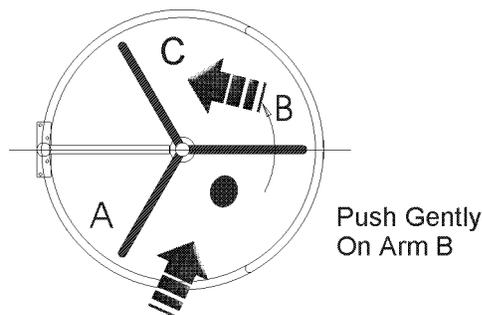

Figure 2
3. Immediately step into turnstile as shown in figure 2.
WARNING: After the user walks through the turnstile, there will be a trailing arm section (A – Fig. 2). Taking long steps could cause the trailing arms to strike the heels of the user. Heel and arm guards may be purchased from Alvarado.